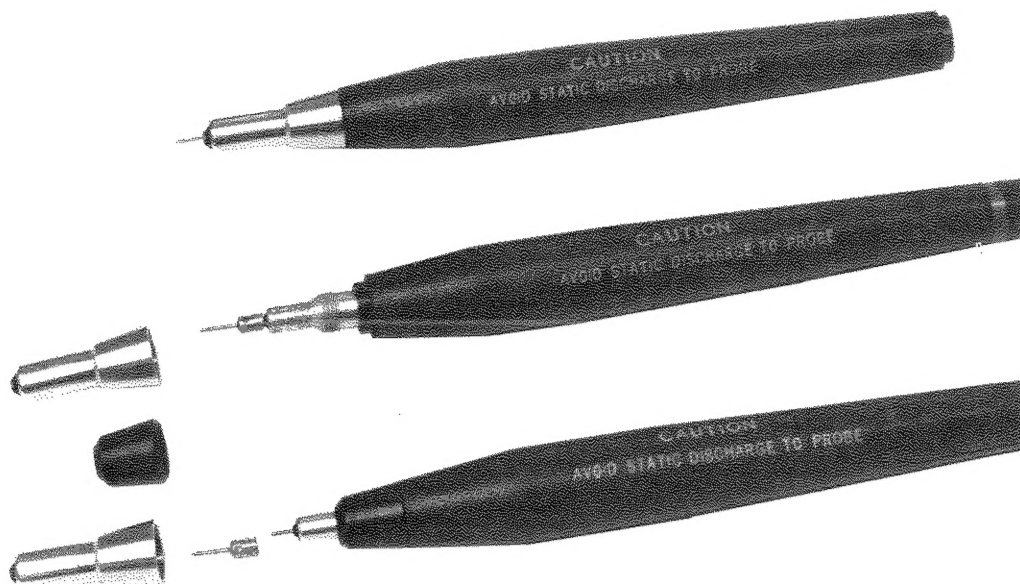

Figure 1-2. Changeable Probe Tips and Probe Cautions
5. AVOID STATIC DISCHARGE TO THE PROBE TIPS. DAMAGE TO THE PROBES MAY RESULT. FOLLOW CAUTIONS IN FIGURE 1-2.
1-16. The probes have an input impedance of 1 Meg ohm and an input capacitance of  $<15$  pF. For use with either Hewlett-Packard or Tektronix® RF hardware, the tip of the probe unscrews to allow the tip to be changed to mate with the specific manufacturer's equipment, see *Figure 1-2*.